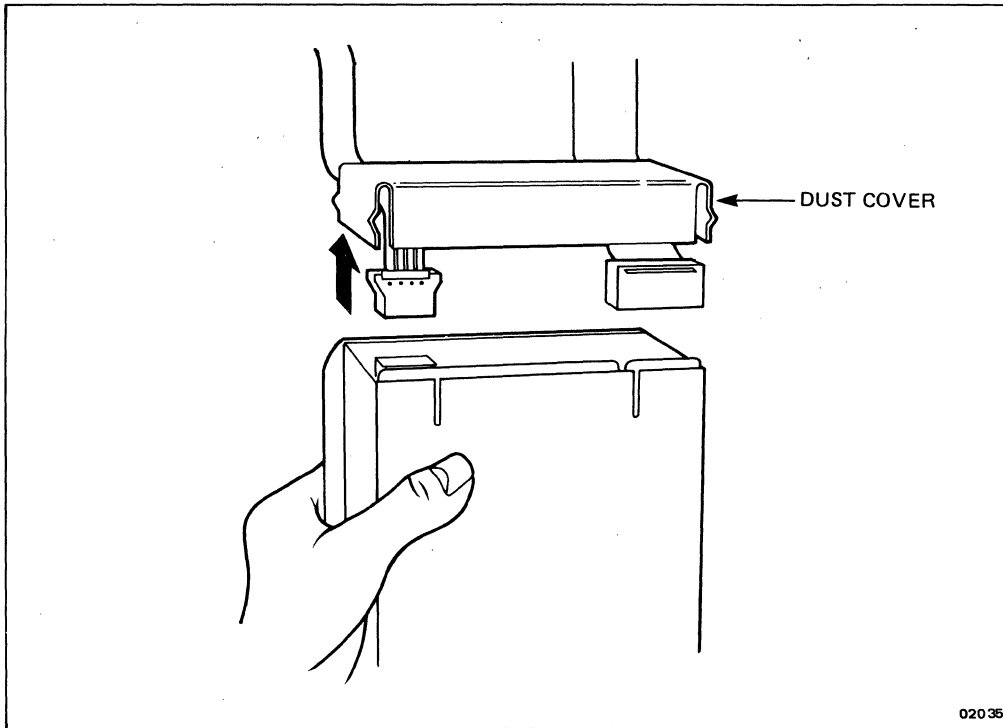

Figure 6-6. Removing/Replacing the Floppy Drive
4. Slide the floppy drive out of the chassis. Notice the two cables connected to the back of the drive and the steel dust cover that protects the cables as shown in Figure 6-6.
4. Connect the 25-pin connector to the corresponding connector on the back of the drive as shown in Figure 6-6. Do not twist the cable -- keep the red cable stripe to your right as you face the back of the system.